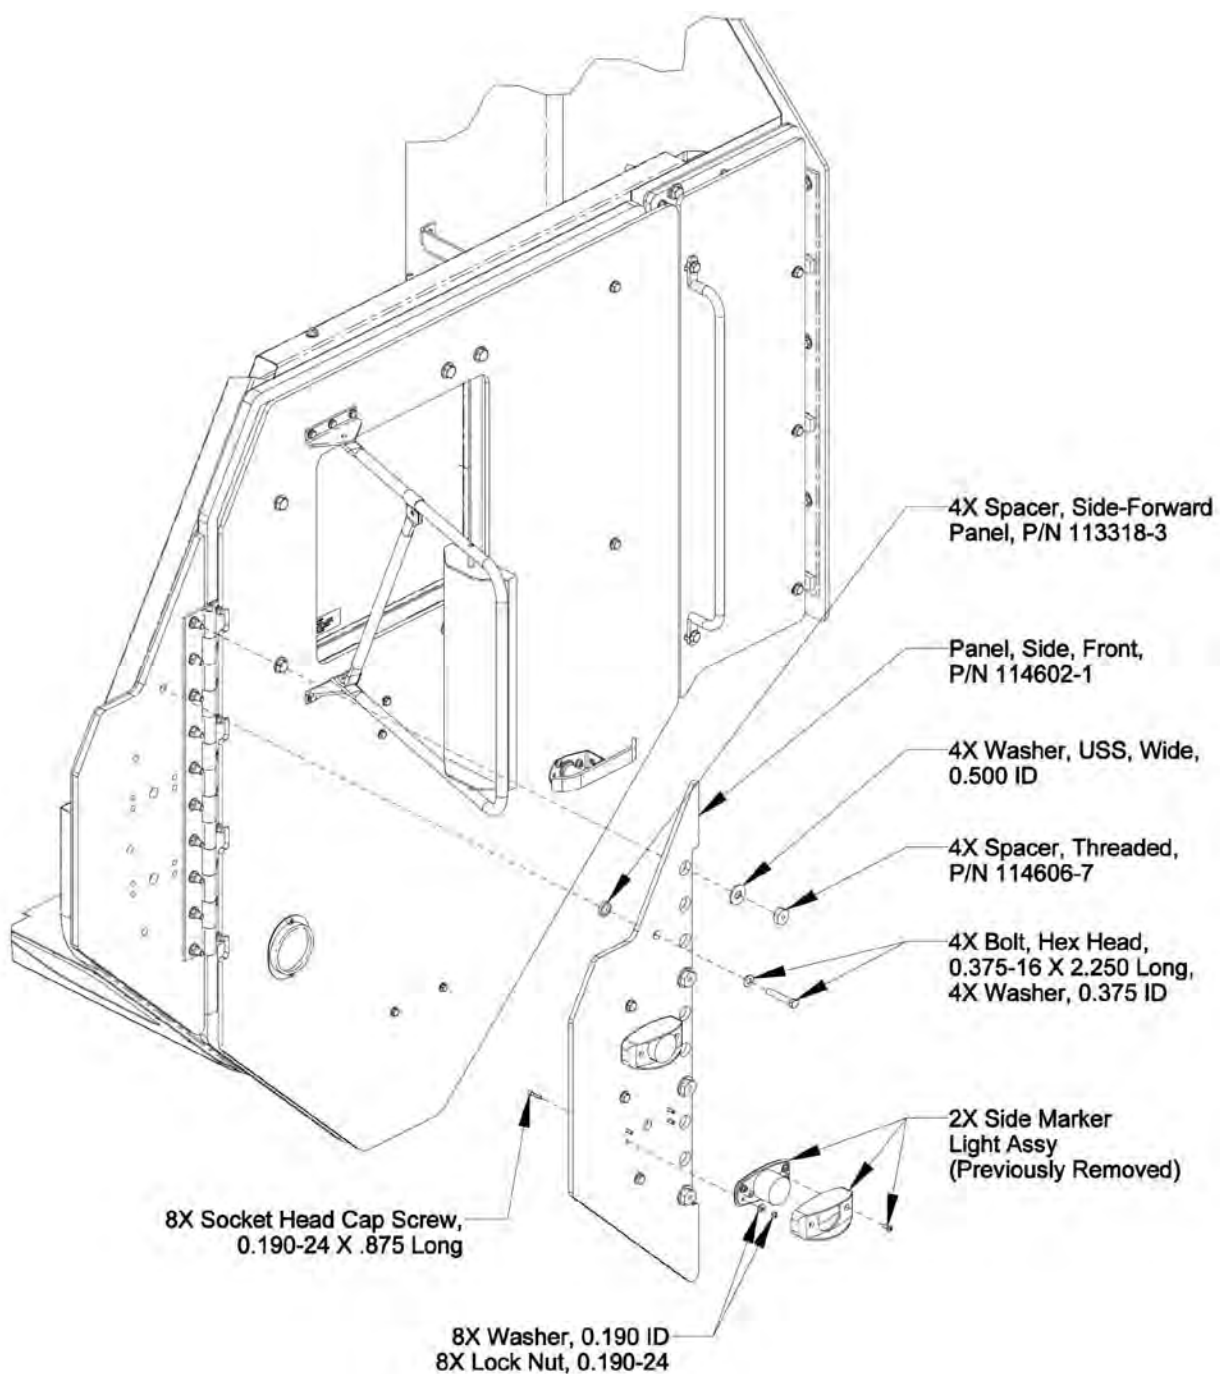

Figure 3. Installation of the Forward Applique Armor Panel.
- d. Remove 4 nuts from the hinge bolts (see Figure 3). Counting from the top down, remove nuts No. 1, 4, 7, and 10.
- f. Install the Side Marker Light Assemblies and covers (2 ea) to the Forward Applique Armor Panel (see Figure 3).
- g. Stick Spacers (P/N 113318-3) over the holes on the Forward Applique Armor Panel (4 places) using caulking or the equivalent (see Figure 3).
- h. Lift the Forward Applique Armor Panel (P/N 114602-1) into place, plug in the Side Marker Light Assemblies (2 ea) and attach the panel to the vehicle using the four hinge bolts as a guide. Install 4 bolts / 4 washers into the forward holes. Apply Loctite to 4 threaded spaces (P/N 114606-7) and install the 4 threaded spacers and 4 washers onto the hinge bolts (see Figure 3).